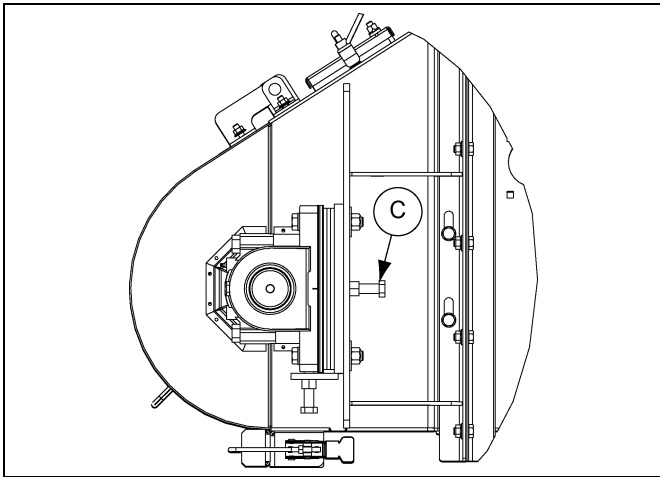
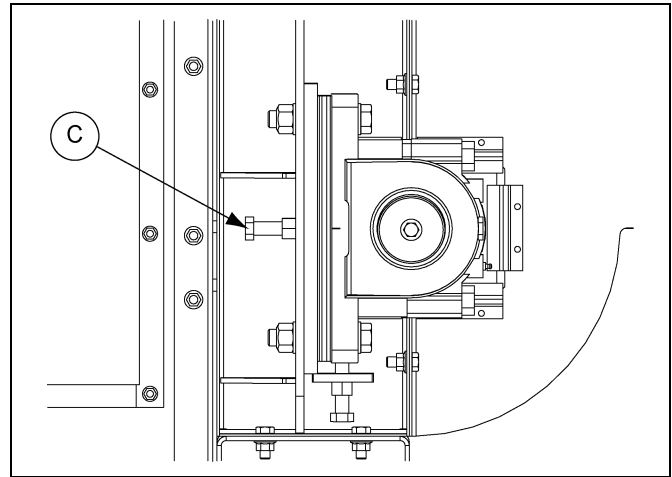

Figure 6W
Figure 6X
4. Belt tracking adjustment is initiated by moving the bearing adjustment bolts. These are located on both sides of the head and tail sections. Belt tracking adjustments are made by adding or removing shims under bearing as necessary. **DO NOT** use take-up rods to correct belt tracking. (See Figure 6W and Figure 6X.)